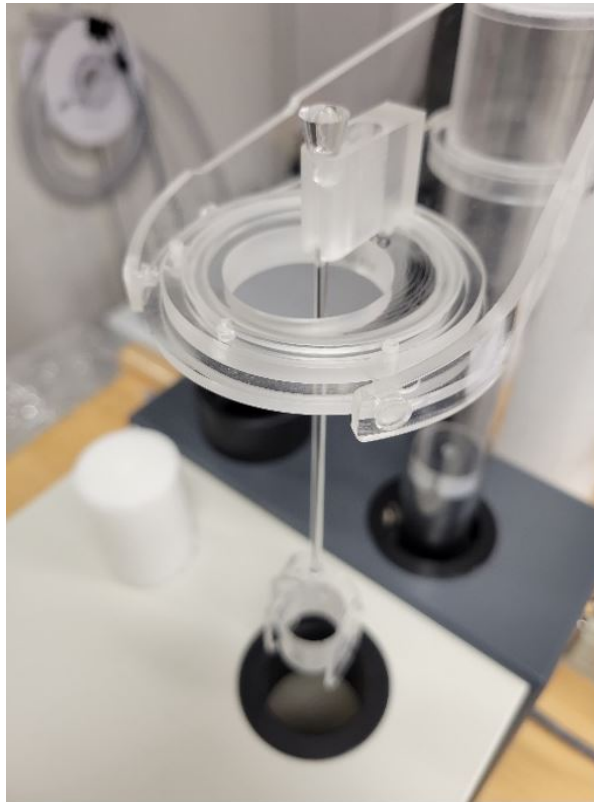

Figure 34: Manual holder insert fixed to the up/down manipulator
7. Fix the manual holder insert in the up/down assembly and attach the manual holder to the insert. Push the manual holder all the way down so that the conical top piece fits into the insert (Figure 34).